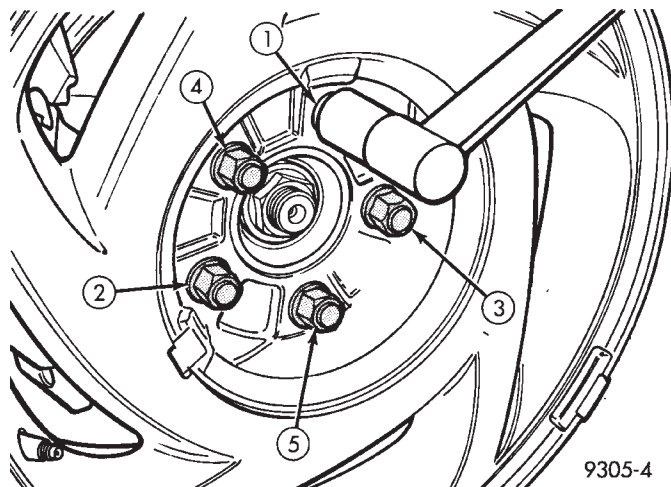

Fig. 15 Tightening Wheel Nuts
(8) If vehicle has rear drum brakes, brake system will require bleeding. Refer to Bleeding Brake System in the Service Adjustments Section of Group 5 Brakes in this service manual.
(9) Install wheel and tire assembly on vehicle. Tighten the wheel mounting stud nuts in proper sequence (Fig. 15) until all nuts are torqued to half specification. Then repeat the tightening sequence to the full specified torque of 129 N•m (95 ft. lbs.).